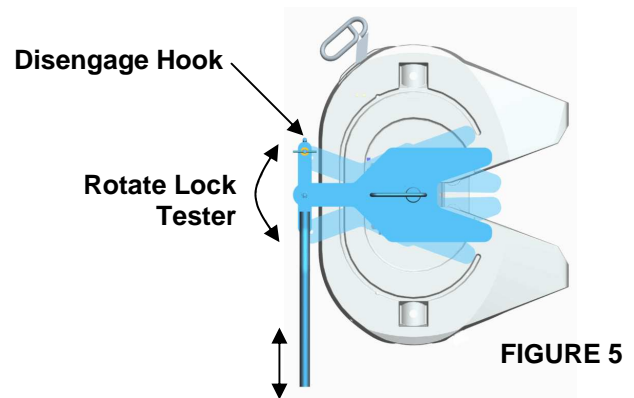

FIGURE 5
- c. **THE LOCK IS TOO TIGHT IF:** The lock tester does not rotate freely when attempting to rotate it in the lock. (See figure 5)